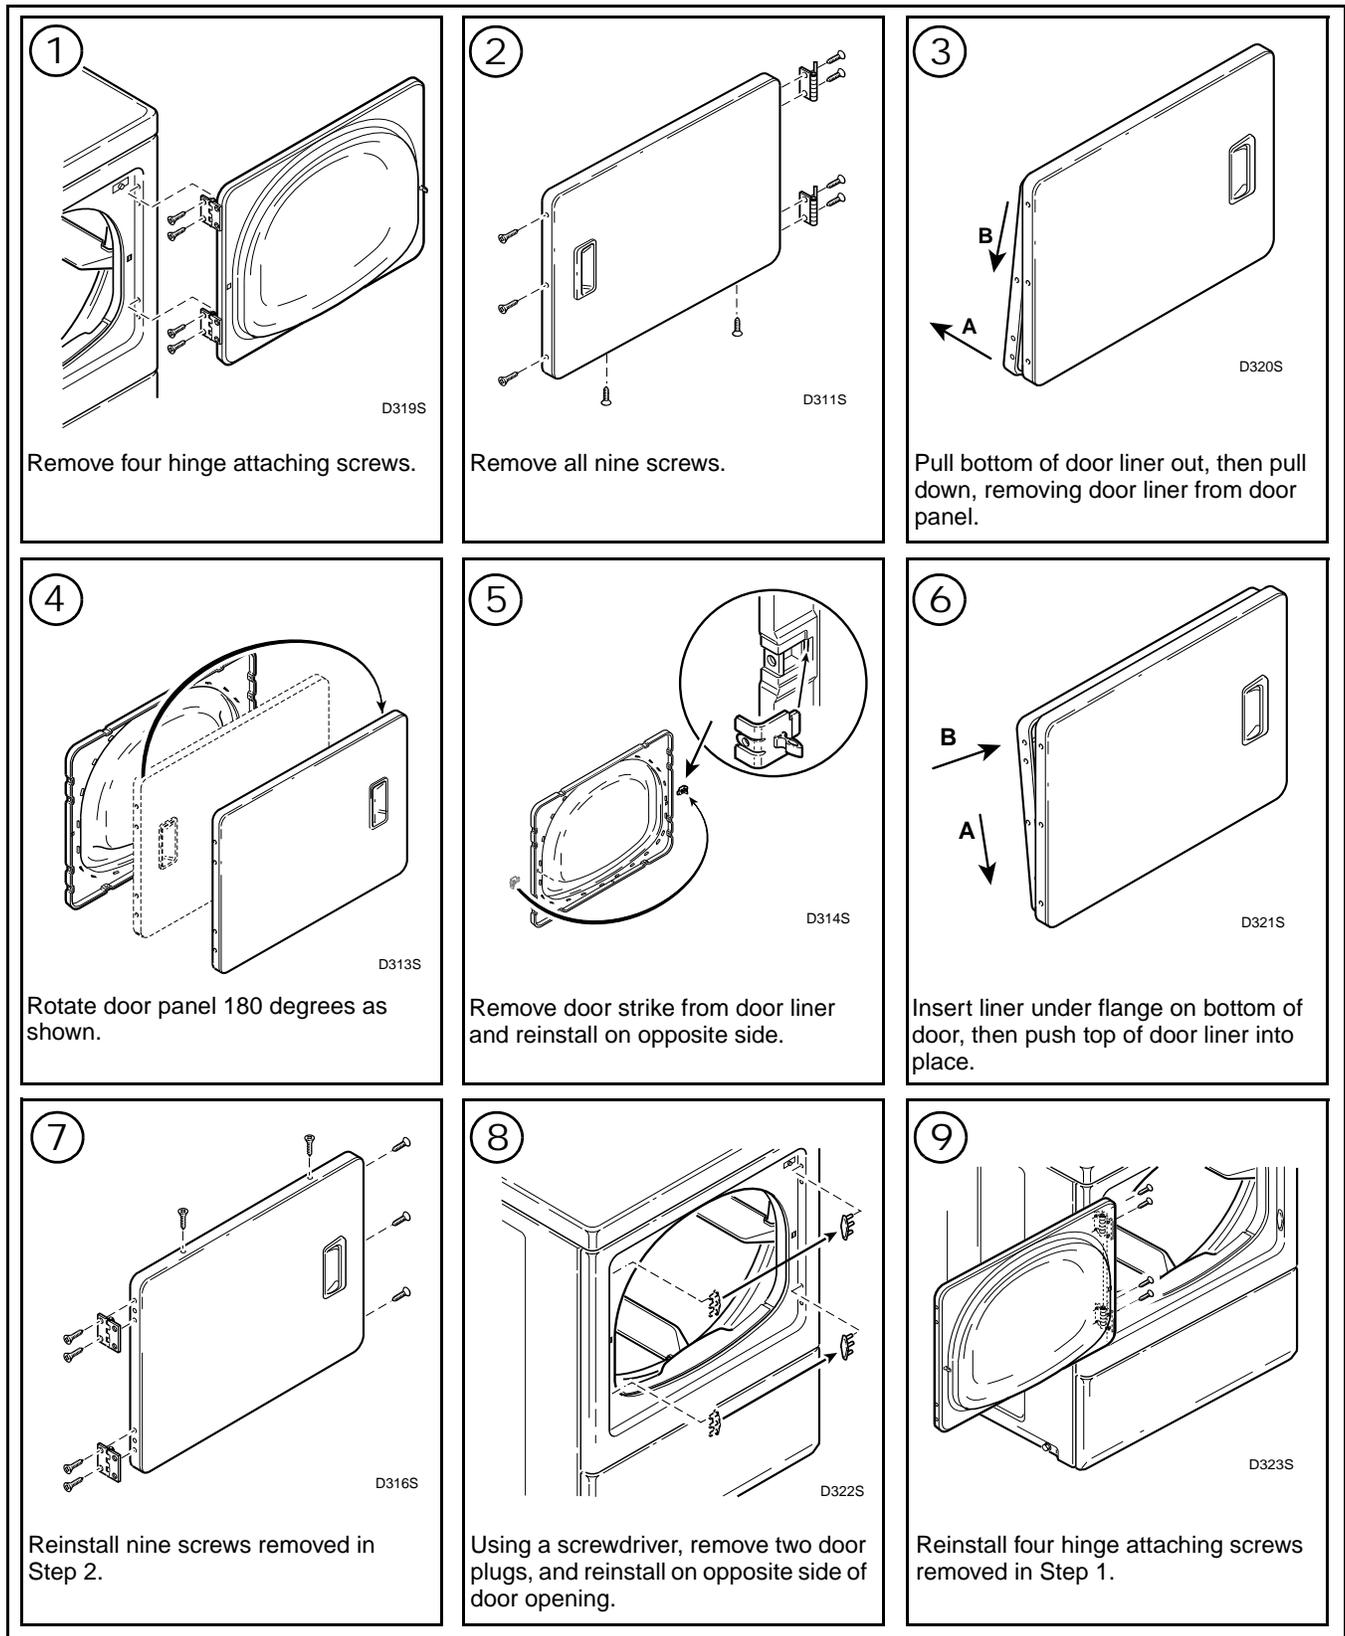

Figure 9
- b. Remove remaining screws around the door perimeter and separate panels. See *Figure 9*.